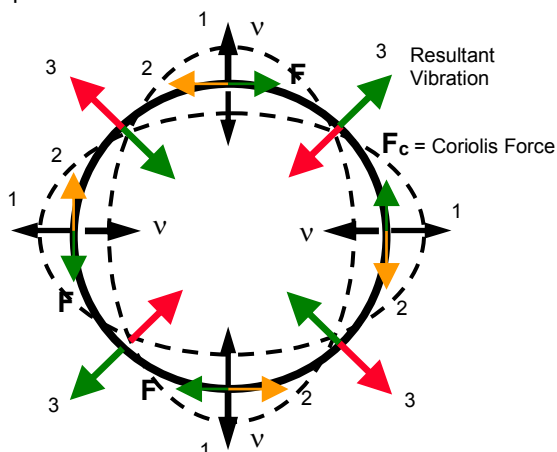

Figure 9
Figure 9 shows the movement of the silicon ring while vibrating. As the ring oscillates in its natural state the ring moves in the way shown by (1). When the gyro is turned, the Coriolis force acts on the ring as shown by (2). This causes a resultant vibration 45° out of alignment with the primary vibration, as shown by (3). The force required to completely null this resultant vibration is directly proportional to the angular rate.